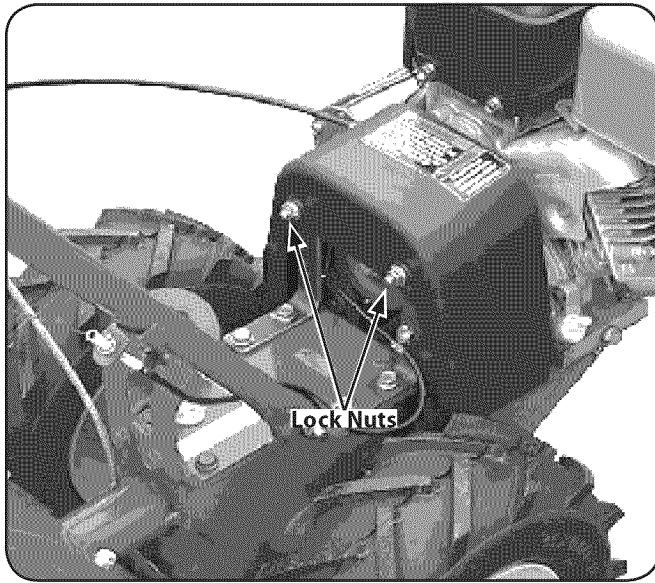

Figure 6-8
2. Remove the two lock nuts and remove the belt cover. See Figure 6-8.
2. Remove the two nuts and remove the belt cover. Refer to Fig. 6-8 in the Maintenance & Adjustments Section.
- Remove the belt cover by removing two flange locknuts. See Figure 6-8 in the Maintenance & Adjustments Section.